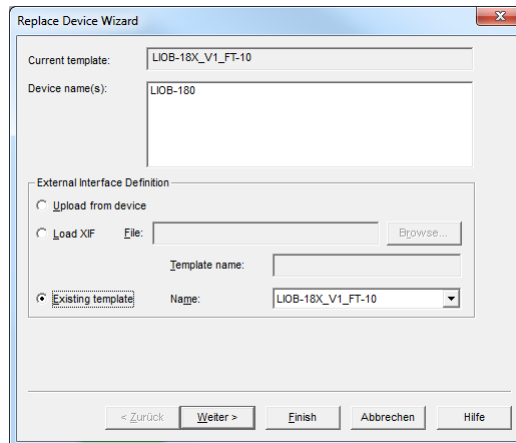

Figure 100: LonMaker replace device wizard
- Select **Commissioning** → **Replace....** This opens the LonMaker Replace Device Wizard as shown in Figure 100.